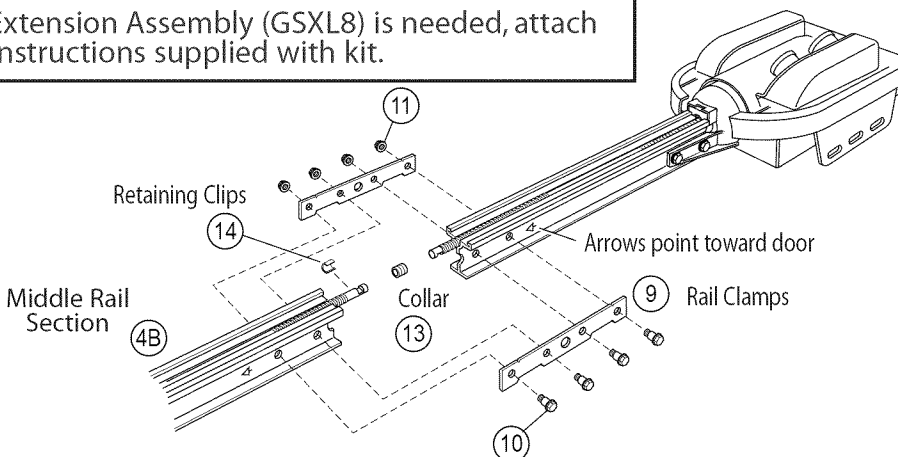

Figure 11 Attach Middle Rail Section
- B Attach Middle Rail Section to First Rail Section, using 2 Rail Clamps, 4 (5/16"-18) Hex Shoulder Bolts, and 4 (5/16"-18) Hex Head Serrated Flange Nuts onto Bolts (Figure 11). **Finger-tighten until later.** (Middle Rail Section looks the same on both ends. See page 8.)